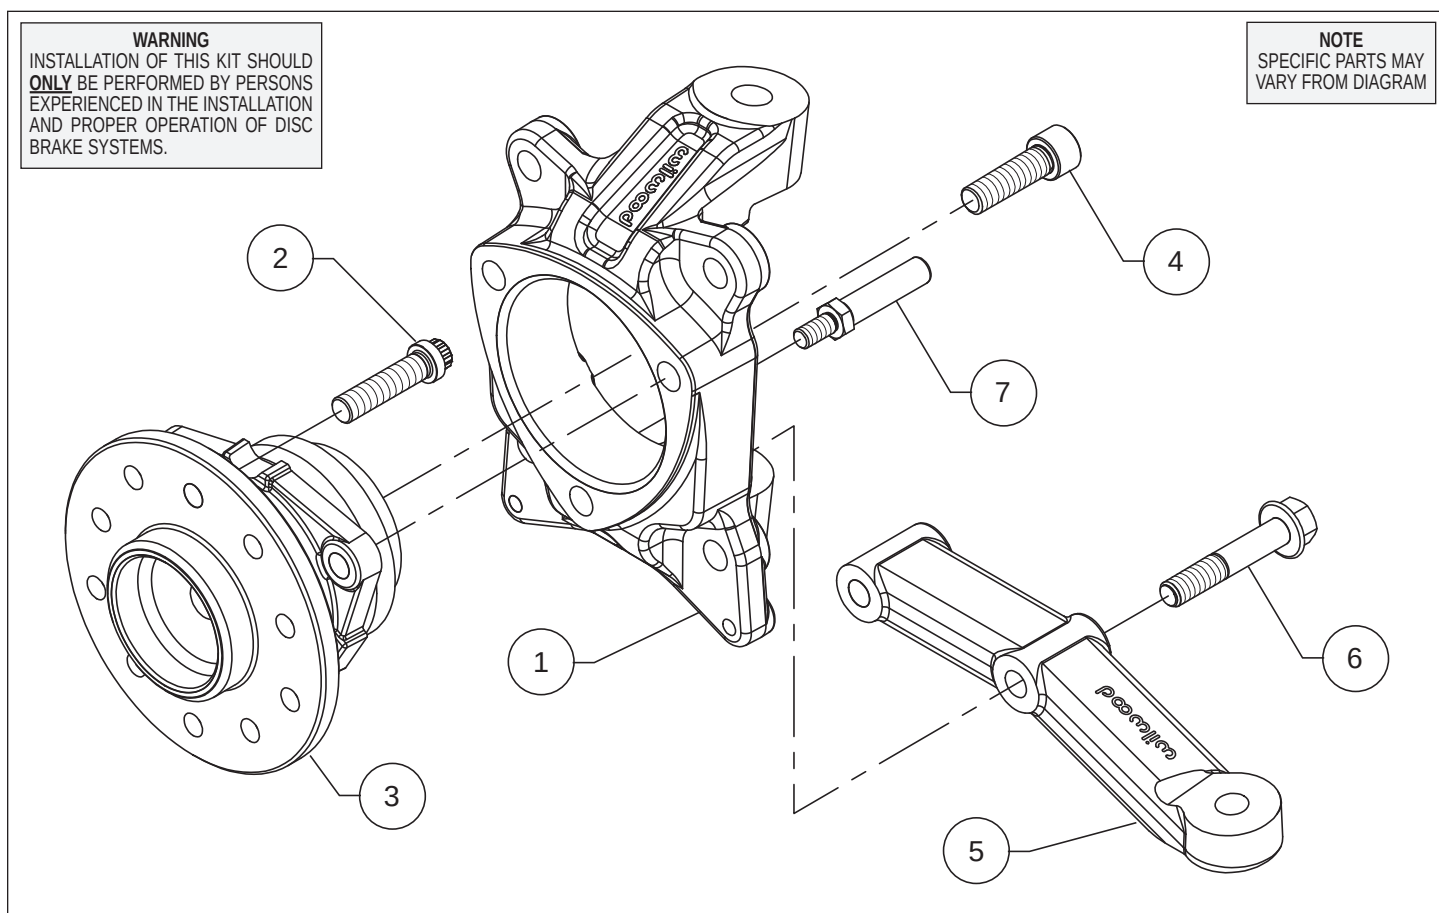

Figure 1. Typical Installation Configuration
Assembly Instructions (numbers in parenthesis refer to the parts list and Figure 1 on the preceding pages):
- Apply red *Loctite*® 271 to the wheel stud (2) threads and install into the hub (3), Figure 1, and Photo 1. Torque to 77 ft-lb.
- Attach the steering arm (5) to the back side of the spindle (1) using bolts (6), Figure 1 and Photo 4. Torque bolts to 90 ft-lbs.
- Install the steering stop bolt (7), Figure 1 and Photo 6. Torque to 25 ft-lbs.